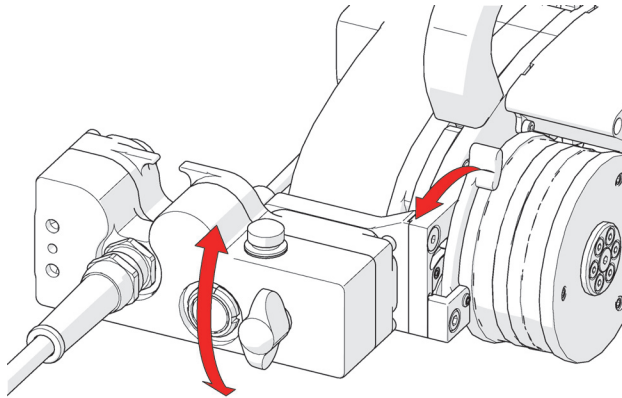

Figure 2-13 Adjust umbilical mount angle
4. Use the lock lever to position the umbilical mount at the desired angle (see Figure 2-13 on page 58). The SteerROVER scanner's umbilical mount can pivot to allow low profile scanning.